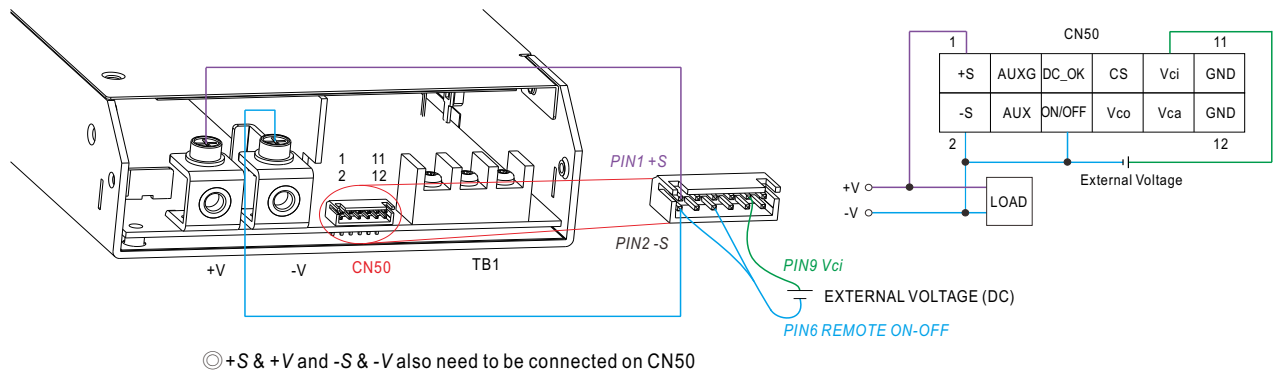

Fig 4.1
(1)Applying EXTERNAL VOLTAGE between "Vci"(pin9) and "-S"(pin2) as shown in Fig4.1